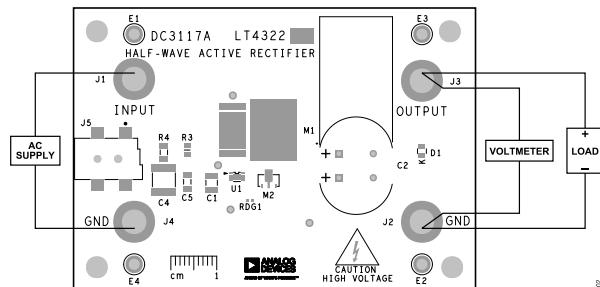

Figure 2. Measurement Equipment Setup
1. Connect an AC power supply to input and GND, as shown in Figure 2. Make sure that the output voltage of the supply is within the input voltage range of the DC3117A, as shown in Table 1. Verify that shorting resistor R1 has been removed before exceeding 20VAC_(RMS). Take care not to exceed 24V or 5A when using the barrel jack (J5). Use the turrets (E1 to E4) and banana jacks (J1 to J4) in all valid current/voltage ranges.
2. Connect a load and voltmeter across output and GND, as shown in Figure 2. Turn down the load current to zero. Put the voltmeter in DC volt measurement mode.